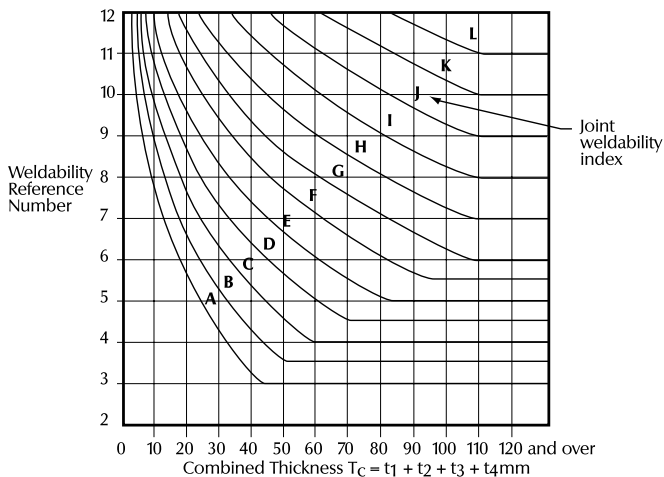

Figure 1 - Determination of joint weldability index using combined joint thickness and weldability reference number.
3. Using Figure 1, determine the joint weldability index from the intersection point of the two numbers from 1 & 2 above (ie the weldability reference number and the CJT number).